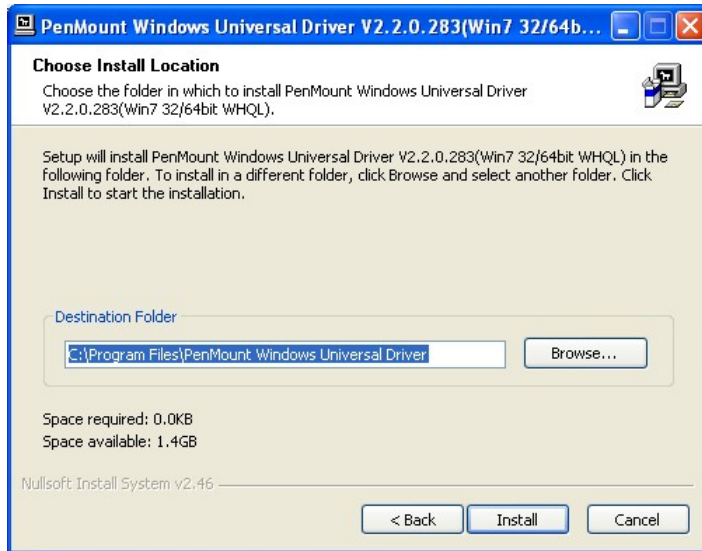

Figure 5-3: Initiate Install
Step 9: The installation destination screen appears. See Figure 5-3. Click **Install**.